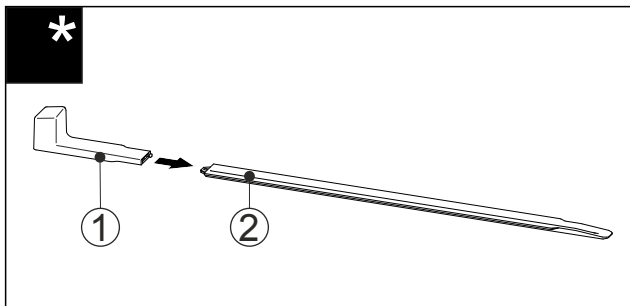

Fig. 58
- ▶ Attach the installation handle Fig. 58 (1) to the levelling rail Fig. 58 (2).